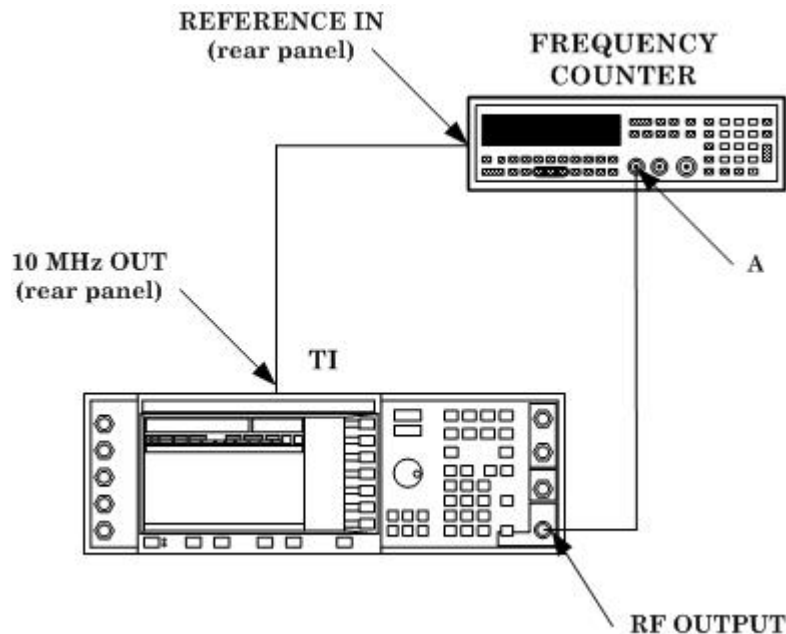

Figure 2. Frequency accuracy equipment setup.
(1) Connect equipment as shown in figure 2.